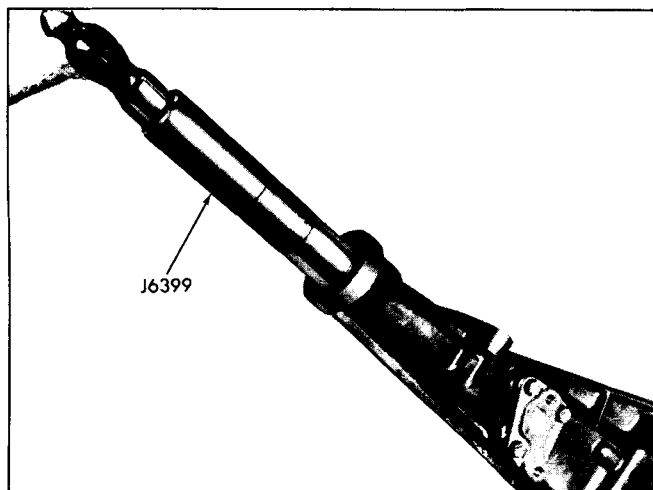

Fig. 7D-27 Removing or Installing Rear Extension Bushing
1. Remove oil seal with punch or other suitable tool and discard seal (Fig. 7D-12).
2. Using Tool J 6399, drive bushing forward into rear extension (Fig. 7D-27).
4. Coat I.D. of bushing with transmission oil, new seal with sealing compound and start straight into bore of extension. Using Installer J 5154-A, tap seal into extension (Fig. 7D-13).